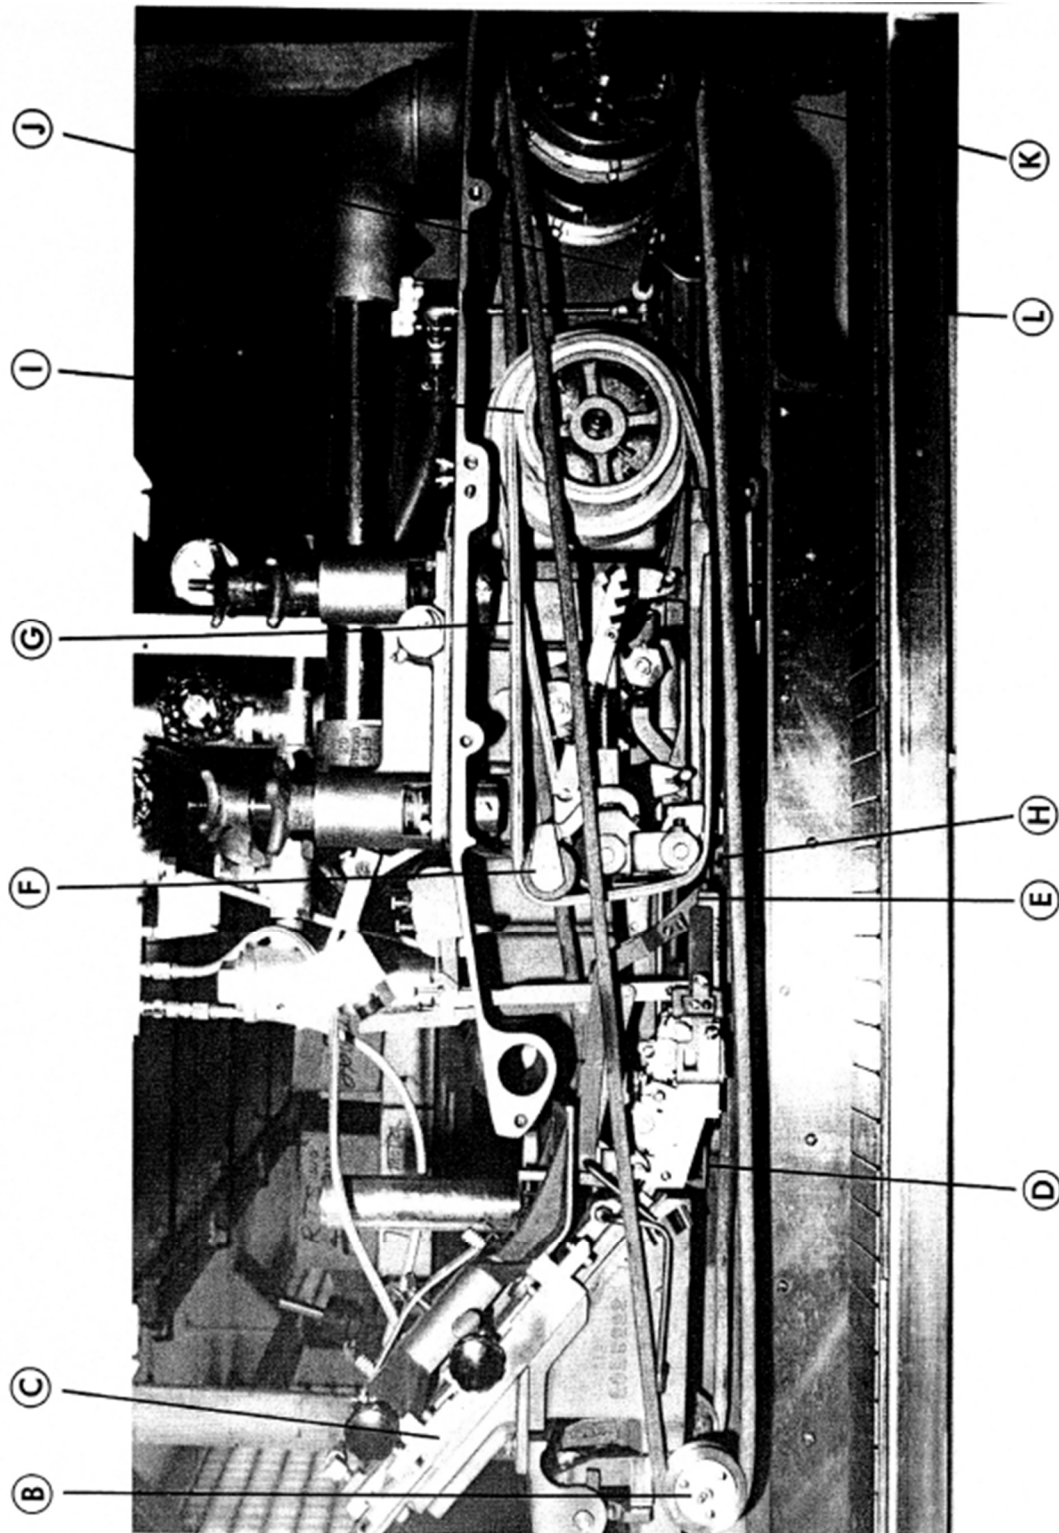

Figure 7-8: Vapor Vacuum Machine (RTO Setup)
7.3.1 Daily Cleaning (*Figure 7-8*)